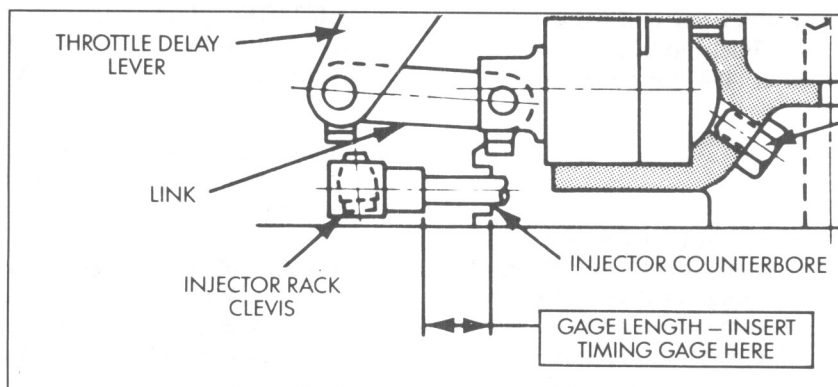

Fig. 10 - Rack Gage Position
1. With the engine stopped, insert the correct rack gage between the injector body rack recess and the shoulder on the injector rack (Fig. 10). Use the injector next to and forward of the fuel modulator assembly. Insert the gage so that the handle is at a 45 degree angle. Fuel modulator specifications and setting tools are as follows:
1. With the engine stopped, insert the correct rack gage between the injector body rack recess and the shoulder on the injector rack (Fig. 10). Use the injector next to and forward of the fuel modulator assembly. Insert the gage so that the handle is at a 45 degree angle.